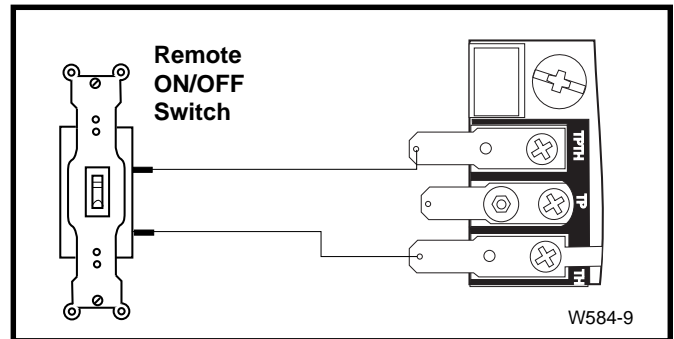

Fig. 7 Remote switch wiring diagram for RN or RP models.
3. Connect the wire to the gas control valve (Fig. 7).